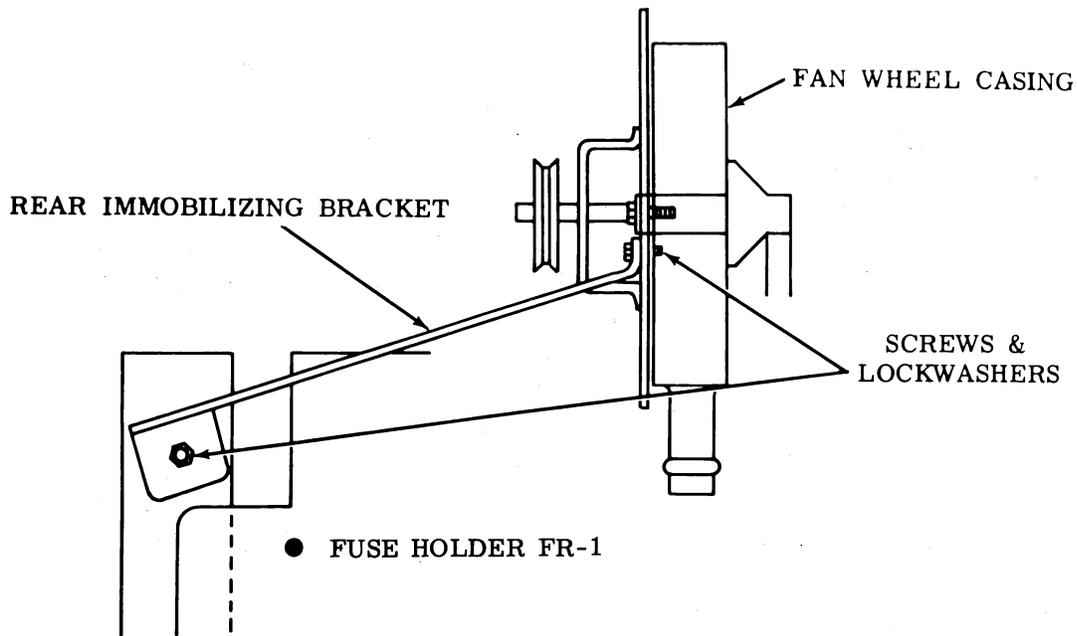

Figure 9 - Tape Punch Immobilizing Hardware
2.17 Remove and discard the tape puller mechanism rear immobilizing bracket and hardware (Figure 9).